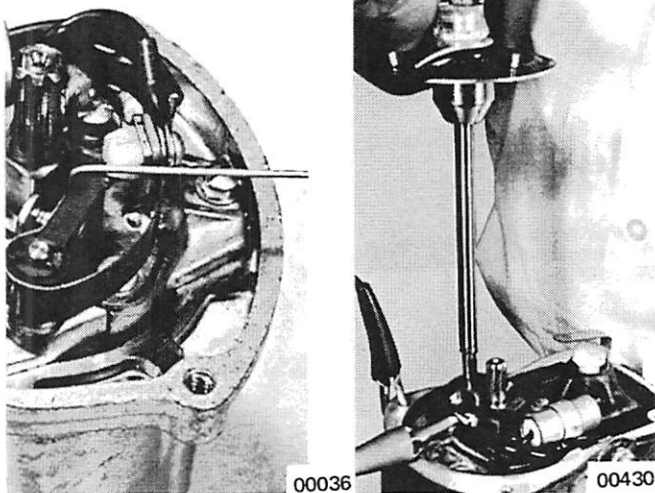

Figure 2. Gauging Spring Tension
2. To check spring tension with C-91-28993 tool, place hook end in crook of fibre cam follower (Figure 2) and pull the tension scale at a right angle  $90^\circ$  and horizontal to the movable arm (Figure 2) until the breaker point just begins to open, as indicated by a sudden movement of the Magneto Analyzer or Continuity Meter pointer hand. If tension gauge is located at any other position on cam follower, the scale reading will be false.
3. When checking spring tension with Spring Tension Torque Tool (C-91-29406), as shown in Figure 2, place hook on end of tool over breaker assembly and turn toward breaker point spring. Read tension on scale of tool.